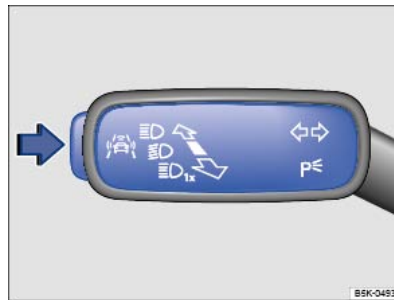

Fig. 26 On the turn signal and main beam lever on the left of the steering column: button for driver assist systems.
- Press the button *⇒ Fig. 26* in the direction of the arrow to open the **Assist systems** menu.